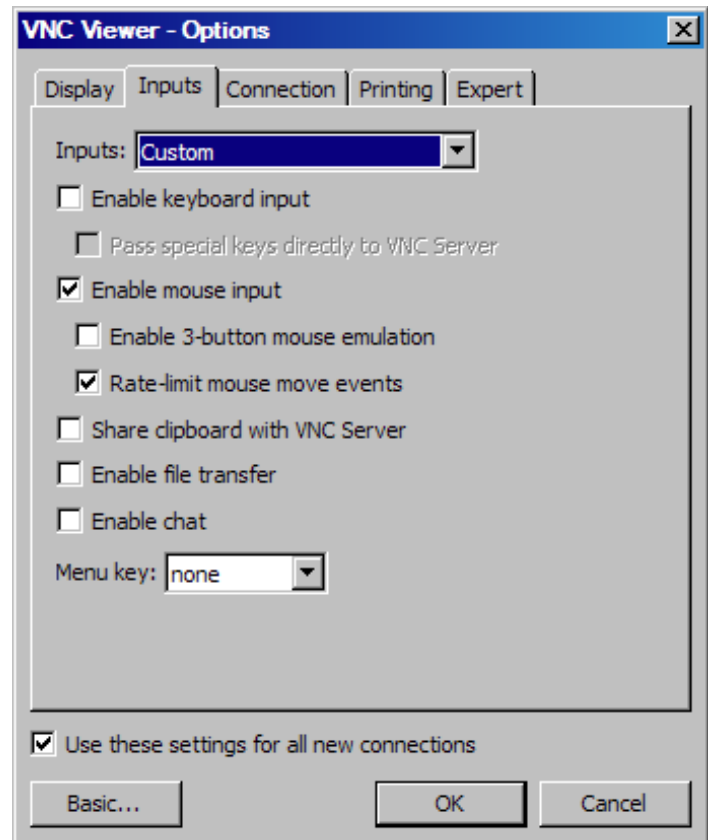

Fig. 132: VNC Viewer - Options - Input Tab
- Next, select the “Inputs” tab (Fig. 132) and deselect all entries except for “Enable mouse input” and “Rate-limit mouse move events.” The “Inputs” drop down